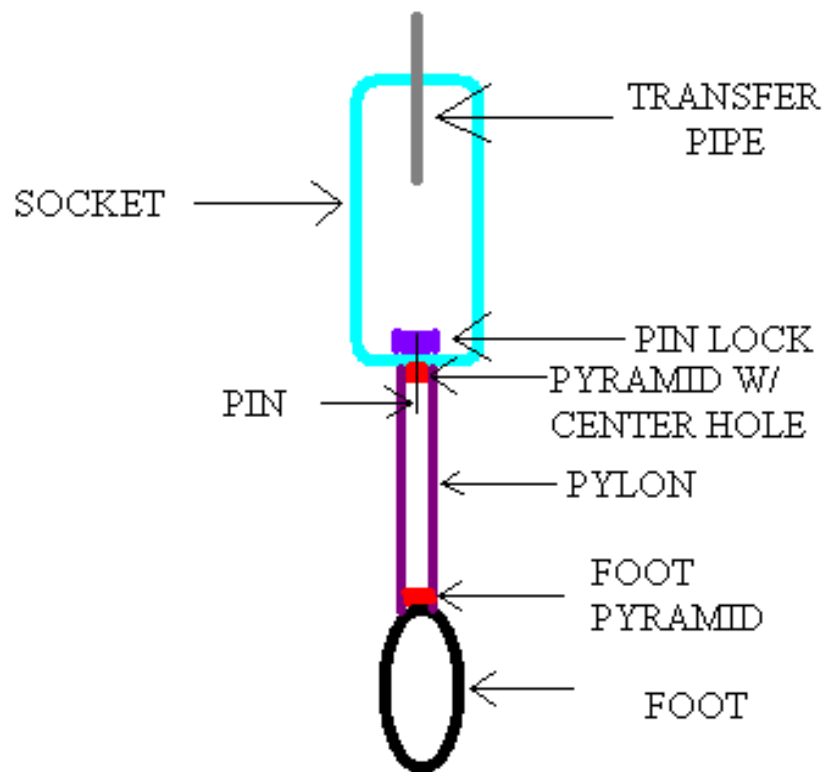
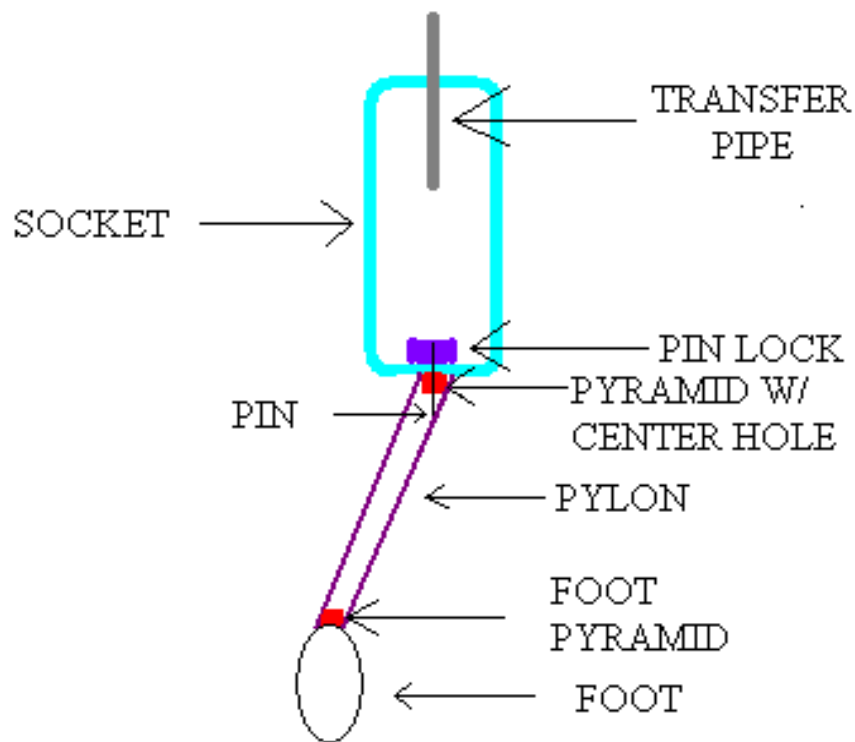

Fig.1: Prosthesis is set up in transfer.
Fig. 2: If liner adjustment is desired, pylon must lean.
12) Alignment: Many pin locks restrict alignment changes after being fabricated into a socket. Linear adjustments are especially subject to limitation. Pin locks that incorporate a standard European 4-hole pattern exemplify how linear adjustments can be restricted. With these locks, the pin typically falls directly through the center of the pin lock, and then through a pyramid with a center hole. If a test socket is transferred into an alignment jig (Fig. 1), and then the prosthetist decides to make a linear adjustment in the sagittal plane, coronal plane, or both planes, the most conventional way to maintain the relationship between the distal end of the socket (where the pylon attaches to the pyramid) and the foot is by leaning the pylon (Fig. 2):